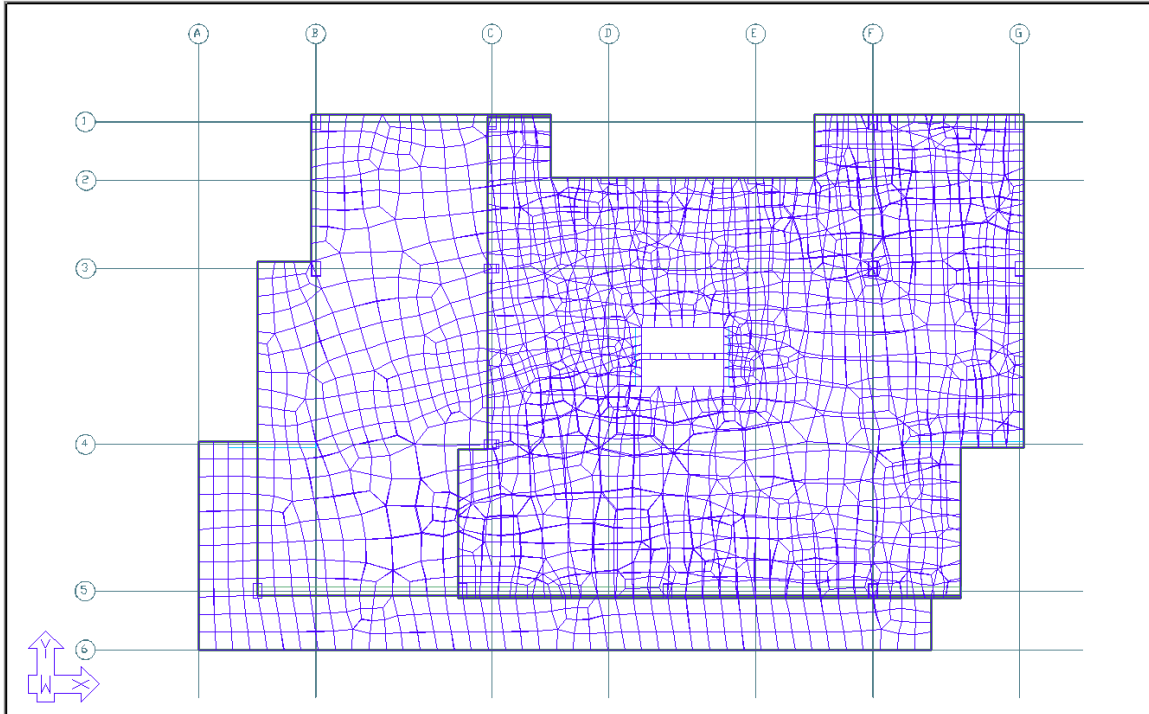

FIGURE 7-9
- When the program completes the meshing procedure, click on the **Top View**  icon in the *Bottom Quick Access* toolbar. This will bring you to the view of the model shown in **FIGURE 7-9**.